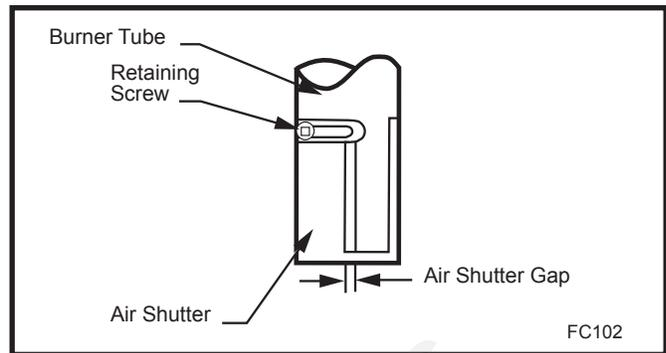

Fig. 19 Air shutter adjustment.
5. Set air shutter to proper opening. (Fig. 19) For LP gas the air shutter should be fully open. For Natural gas the air shutter should be set to 1/16" open.
Typically, the top 3/8" or 1/2" of the thermopile should be engulfed in the pilot flame. (Fig. 19)